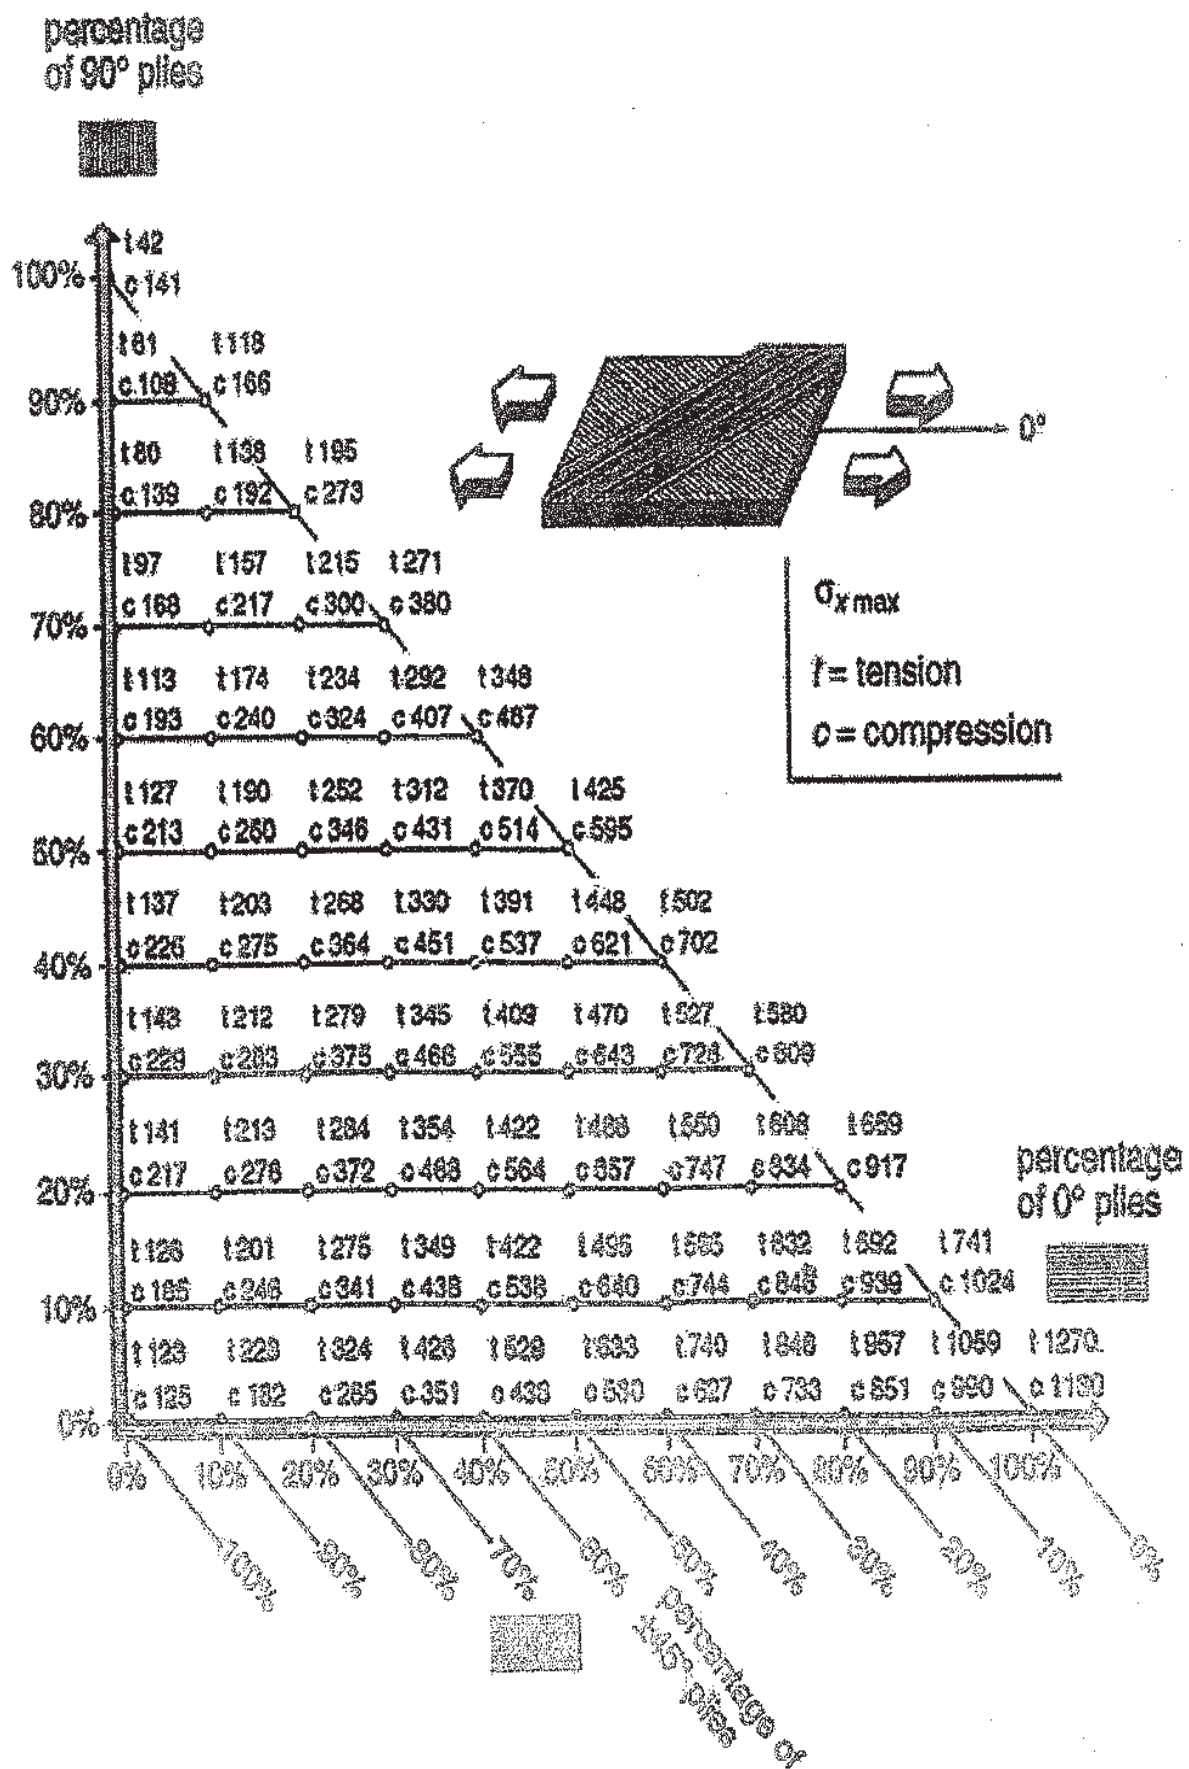
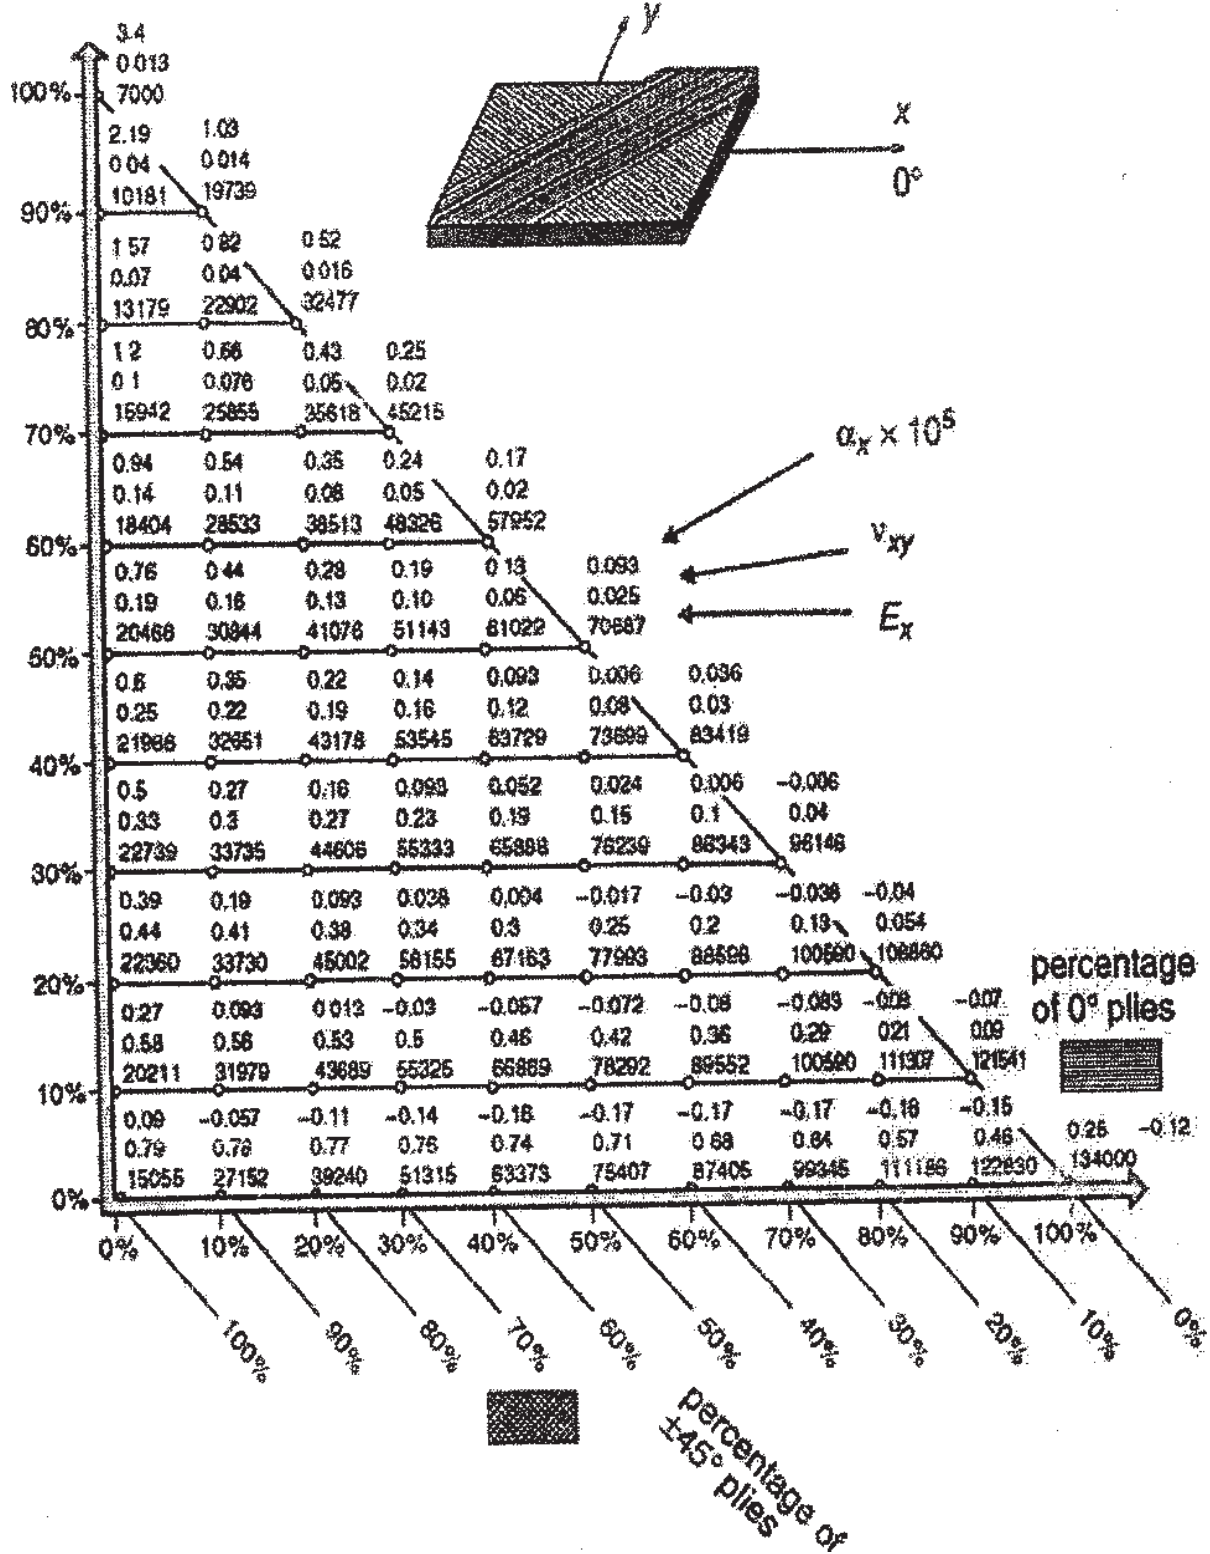

Figure . 1 Strength
Figure . 2 Modulus
- b) For a $[0/\pm 45/90]_s$, determine the number of $0, \pm 45, 90$ plies if the minimum strength in x - direction is 391 MPa and modulus is 61 GPa. The laminate thickness is 4 mm. Refer to fig. 1 and fig. 2. – [6]